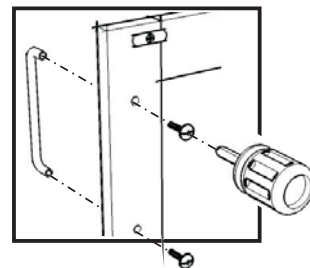

Figure 1
Assemble Front Piece (H1), (H2) and Front Rail (K). (See figure 1)
Attach Pull Handles to the Door (W) and (X) using Machine Screws. (See figure 1)
Using a **philips screwdriver**, insert 1" screws into the pre-drilled holes as shown, tighten half way. (See the figure 1)
Using a philips screwdriver, insert 1" screws into the pre-drilled holes as shown, tighten half way. (See the figure 1)